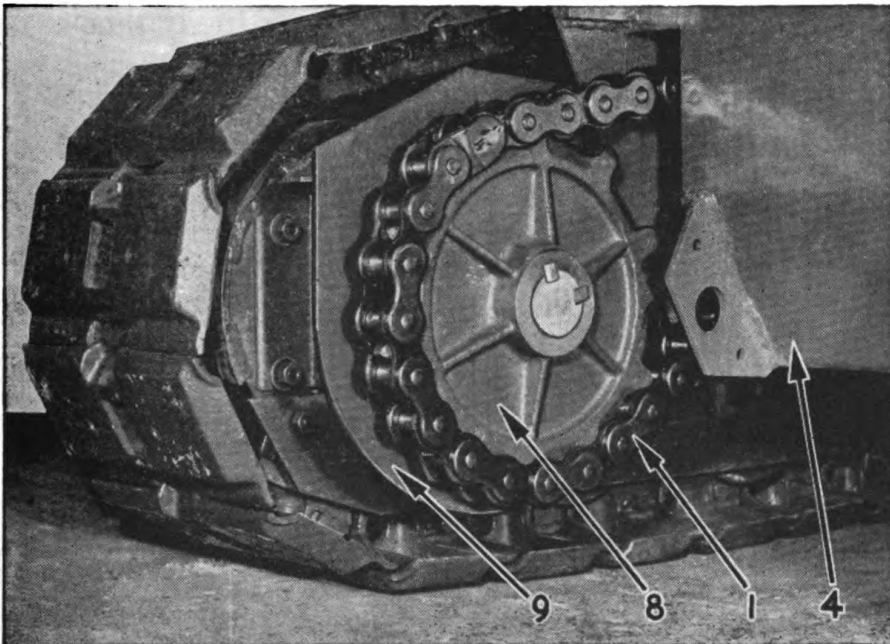
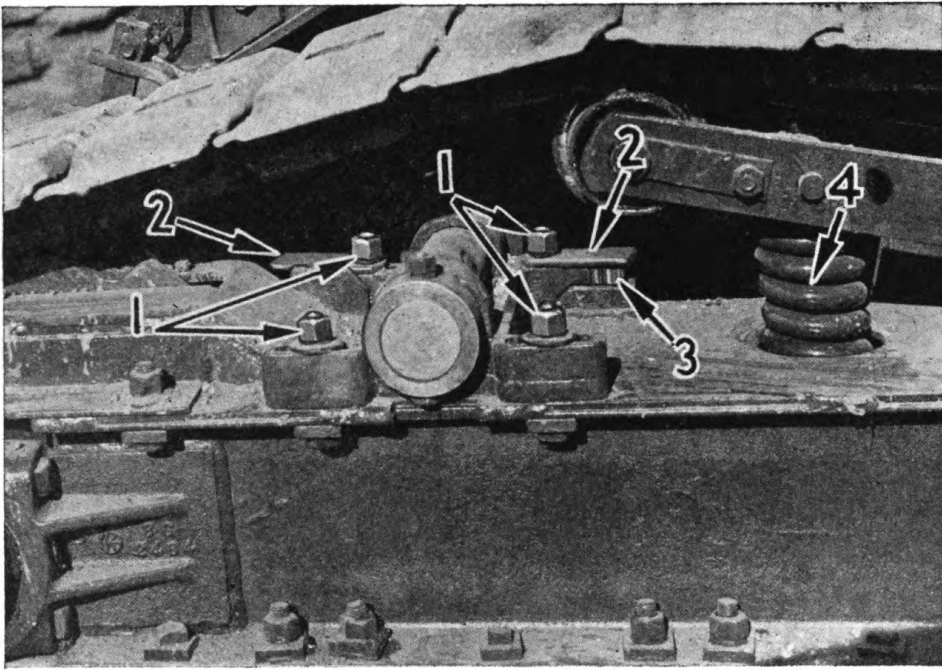

Figure 42
Figure 43
The chain (1), Figure 42 is tightened by moving the entire crawler assembly toward the spiral end of the loader. Loosen the four bolts (1), Figure 43 that secure the crawler bearing to the crawler main frame. When the inside pair of bolts are loosened the keeper plates, (2) can be turned around revealing the shim plates, (3) on both sides of the bearing. To tighten drive chain remove shims from side of bearing near-